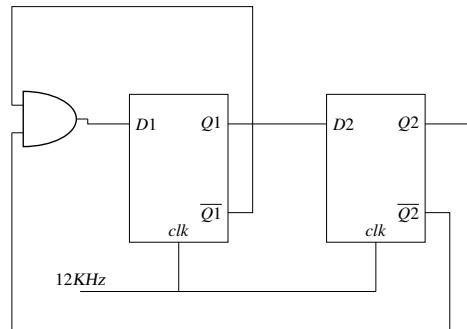

Fig. 5.18
18. In the circuit shown in Fig. 5.18, the clock frequency, i.e., the frequency of the clk signal, is 12 KHz. The frequency of the signal at **Q2** is ____ KHz. (GATE-EC2019,25)